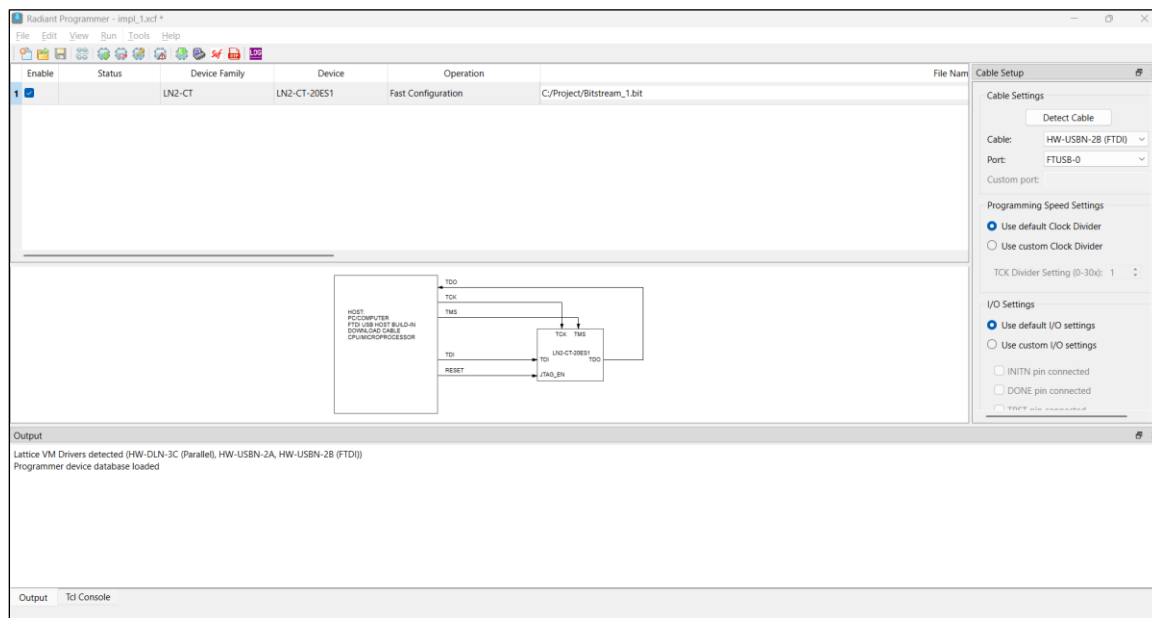

Figure 8.2. Radiant Programmer – Main Window (with Certus-N2 Device)
4. The Radiant Programmer main window opens listing the device as found in a scan if applicable (Figure 8.2).